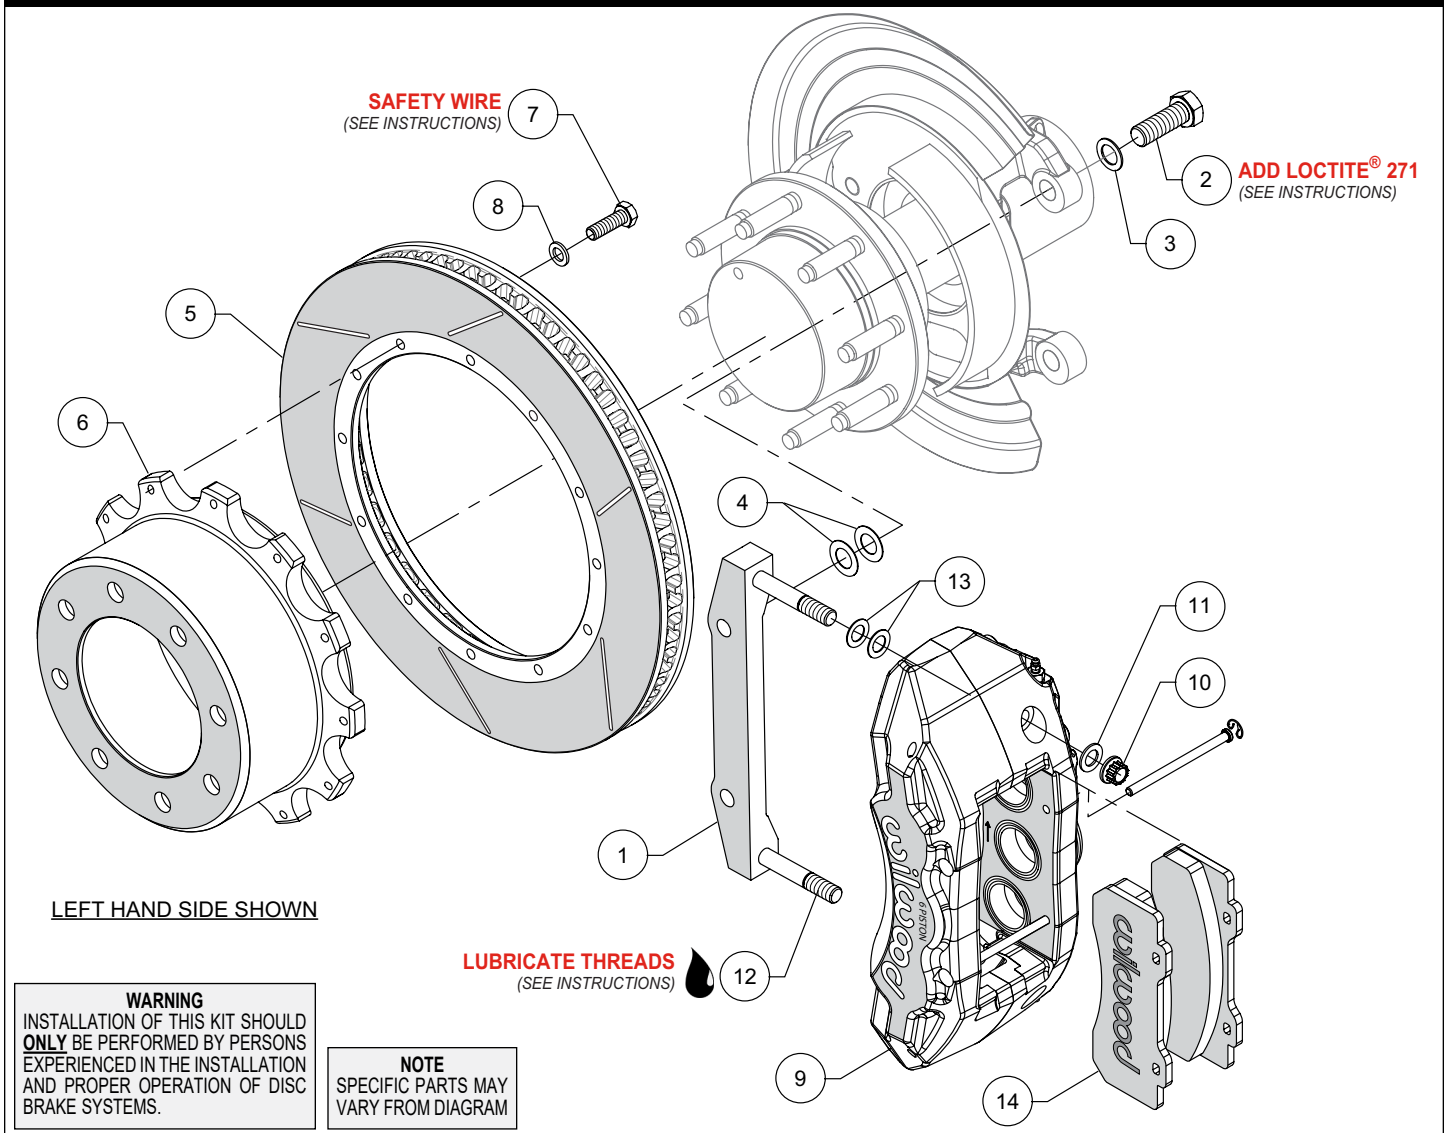
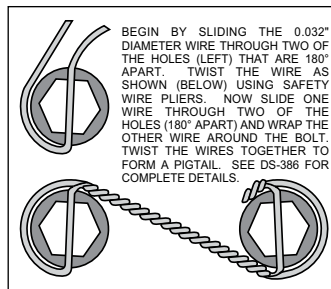

Figure 1. Typical Installation Configuration
Figure 4. Safety Wire Diagram
**NOTE:** Numbers in parenthesis refer to the parts list and Figure 1 on the preceding pages.
•The caliper mount bracket (1) should initially be installed with clean, dry threads on the mounting bolts. Orient the bracket as shown in Figure 1 and Photo 1, and install using bolts (2) and washers (3). Initially place two .024 thick shims (4) on each bolt between the bracket and upright, Figure 1. Temporarily tighten the mounting bolts. **NOTE:** The bracket must fit squarely against the mount bosses on the upright. Inspect for interference from casting irregularities, machining ridges, burrs, etc. Later, after the caliper alignment has been checked, the mount bolts will be secured using red *Loctite*® 271.
•Orient the rotor (5) and the hat (6) as shown in Figure 1 and Photo 2. Attach rotor to hat using bolts (7) and washers (8). Apply red *Loctite*® 271 to the bolt threads and torque to 25 ft-lb using a criss-cross pattern. The bolts must be safety wired using standard 0.032 inch diameter stainless steel safety wire as shown in Figure 4. Please refer to Wilwood's data sheet DS-386 (available at [www.wilwood.com/Pdf/DataSheets/ds386.pdf](http://www.wilwood.com/Pdf/DataSheets/ds386.pdf)) for complete safety wire installation instructions.
•**NOTE:** This kit contains distinct right and left hand calipers that must be mounted in a specific direction, as described below. Lubricate the caliper mounting studs (12) with lightweight oil. Initially place two .032" thick shims (13) on each stud as shown in Figure 1 and Photo 3. Mount the caliper (9) onto the bracket (1) using lock nuts (10) and washers (11), Figure 1. Ensure that the caliper is mounted so that the largest pistons are at the rotor exit end of the caliper, in relation to the direction of rotor rotation. Temporarily tighten the lock nuts and view the rotor through the top opening of the caliper. The rotor should be centered in the caliper, Photo 4. If not, adjust by adding or subtracting shims (4) between the bracket and the upright. Always use the same amount of shims on each of the two mounting bolts. Once the caliper alignment is correct, remove the bracket mounting bolts (2) one at a time, apply red *Loctite*® 271 to the threads, and torque to 120 ft-lb.